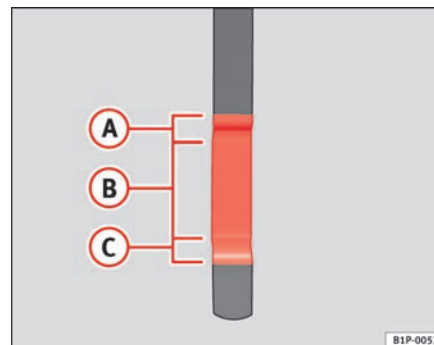

Fig. 139 Engine oil dipstick.
- Then pull it out once more and check the oil level ⇒ page 209, fig. 139. Top up with engine oil if necessary.